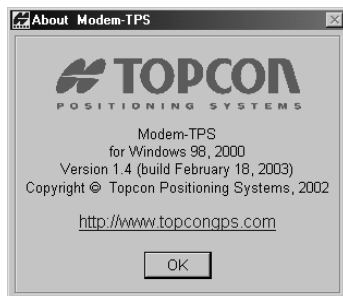

Figure 2-32. About Modem-TPS
- Click **Help->About** to view Modem-TPS version and copyright information on the About Modem-TPS dialog box (Figure 2-32).